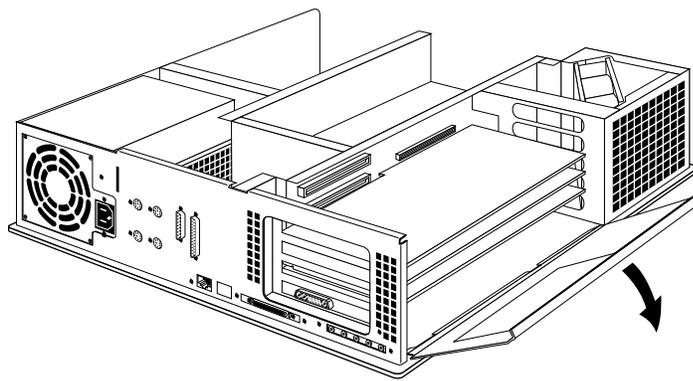

Figure 10 Opening the metal panel in front of the expansion slots.
2. Move the system or position yourself so that you are facing the expansion slots, as shown in Figure 10.